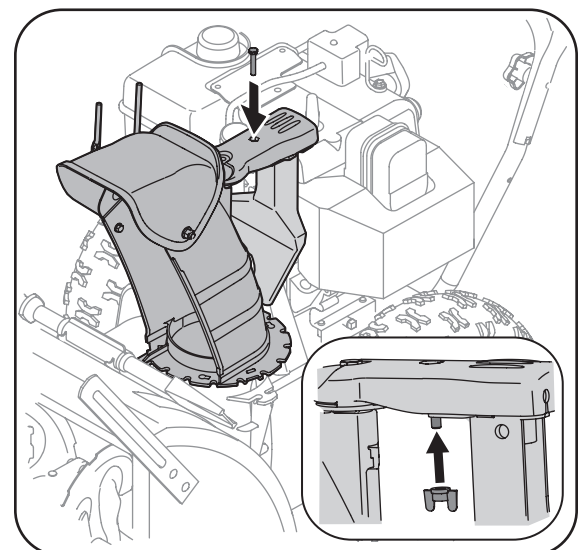

Figure 4
4. Secure the round end of the chute control assembly to the chute assembly with wing nut provided. See Figure 4.